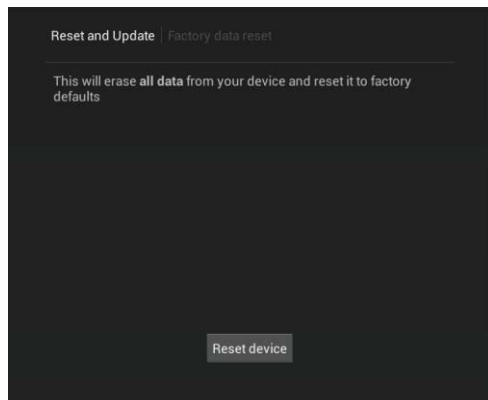

FIG. 111 Factory Data Reset window
- Under *DEVICE RESET*, press **Factory Data Reset** to open the *Factory Data Reset* window (FIG. 111).